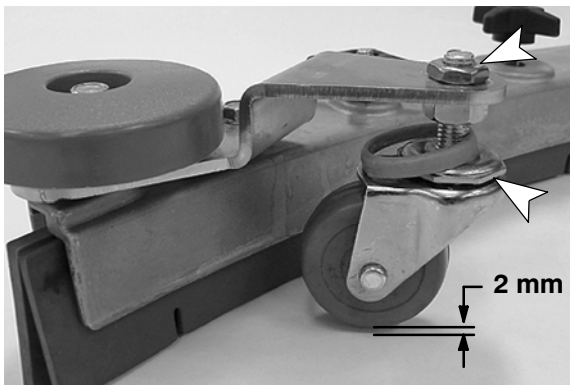

FIG. 61
1. To check the squeegee assembly for proper adjustment, remove the squeegee assembly from the machine and place it on a level surface. Measure the distance between the caster and the surface. It should measure approximately 2 mm (Figure 61).
2. To adjust the caster height, loosen the top nut and remove the plastic bearing cover to access the adjustment nut. Turn the adjustment nut until properly adjusted (Figure 61). After adjusting, tighten the top nut and replace the plastic bearing cover. Repeat step for the other caster.